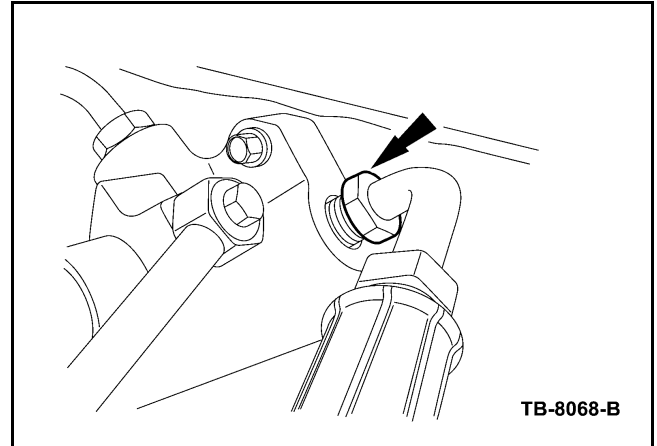

Figure 1 - Article 04-23-8
2. Disconnect the pressure line-to-booster fitting (Figure 1).